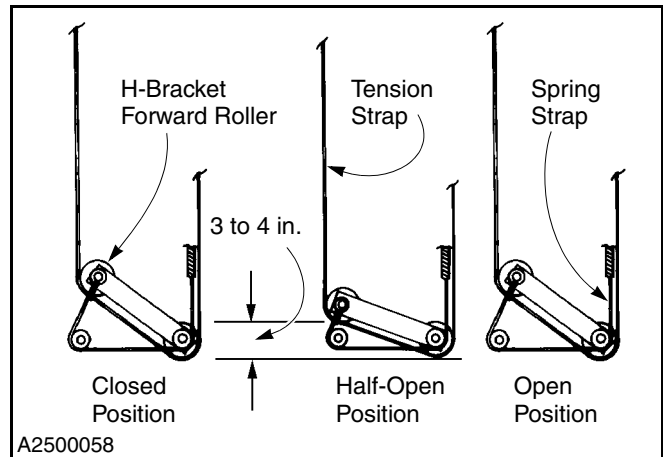

Figure 32
2. Check the position of the H-bracket forward roller in each side column. They should both be 3 to 4 in. above the side column base plate. (See Figure 32.)
3. Run the door through a complete cycle. Check the position of the H-brackets when the door reaches the full-open and -closed positions. If either H-bracket is not as shown in Figure 32, adjust the tension strap. (See “TENSION STRAP ADJUSTMENT” on page 24.)